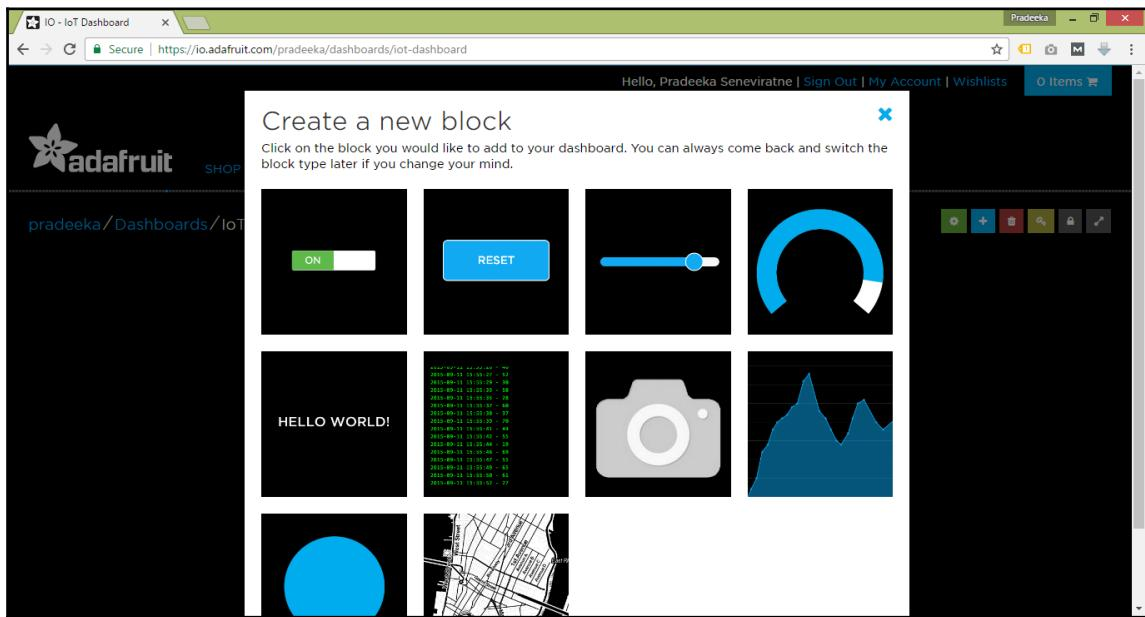

Figure 4-14: Create a new block
2. Click the **Create a new block** button in the top-right corner of the page. The **Create a new block** pop-up window will appear (Figure 4-14). Click the **Line Chart** box: